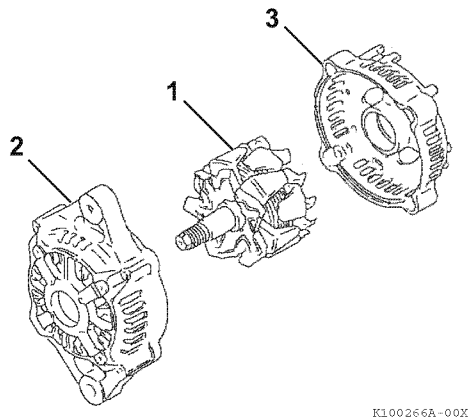

Figure 11-14
4. Lubricate the shaft of the rotor assembly (**Figure 11-14, (1)**). Press the rotor assembly into the front frame housing (**Figure 11-14, (2)**) and rear frame housing (**Figure 11-14, (3)**).